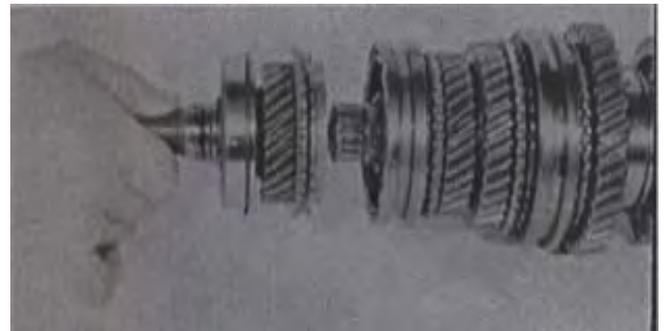

Fig 10-24
- (1) Take out input shaft by hand, taking care not to let high-speed synchronizer ring fall off .(FIG.10-24)